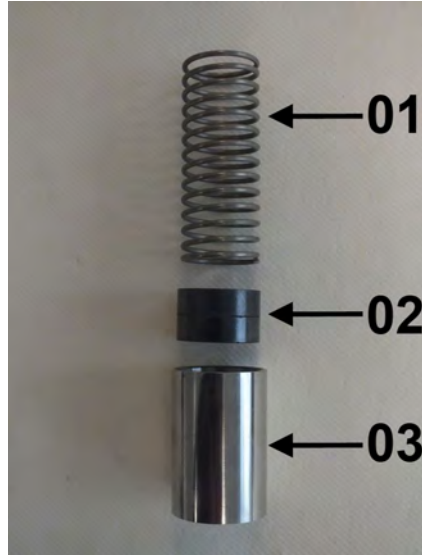

Fig. 42: Spring, magnets and float
7. ➤ The inner parts of the flow monitor consist of the (Fig. 42/01) spring, (Fig. 42/02) magnets and (Fig. 42/03) float.